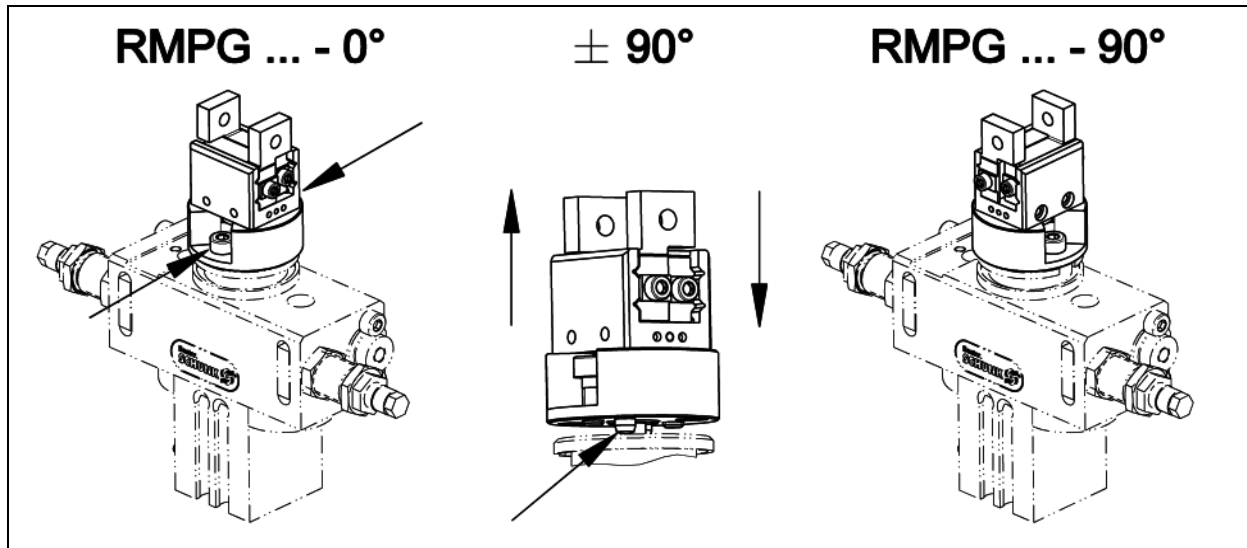

Fig. 3 Conversion of gripper head
2. Pull the gripper head with the adapter up until the centering element (see arrow Fig. 3) no longer grips and turn the gripper head